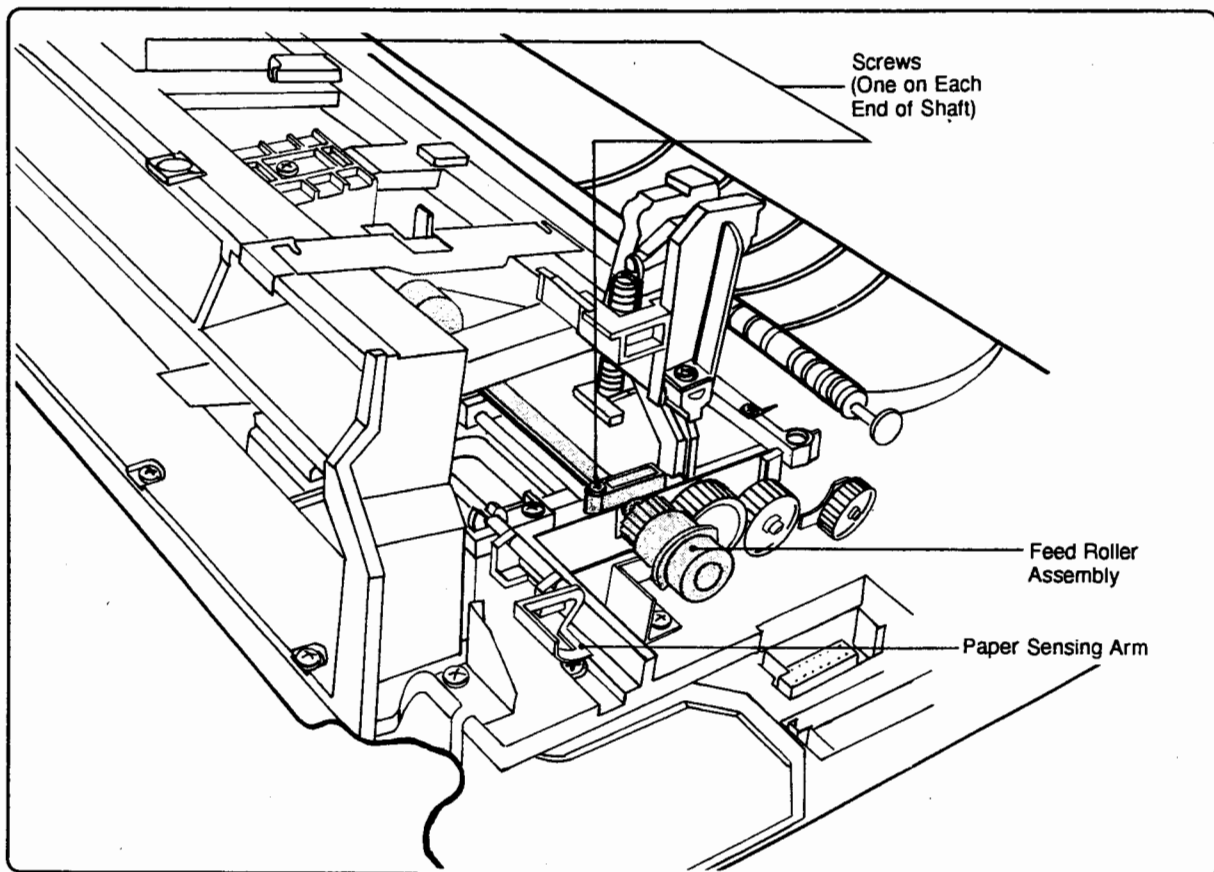

Figure 6-26. Feed Roller Assembly
3. Remove the screws (2) that secure each end of the Feed Roller Assembly (see Figure 6-26).